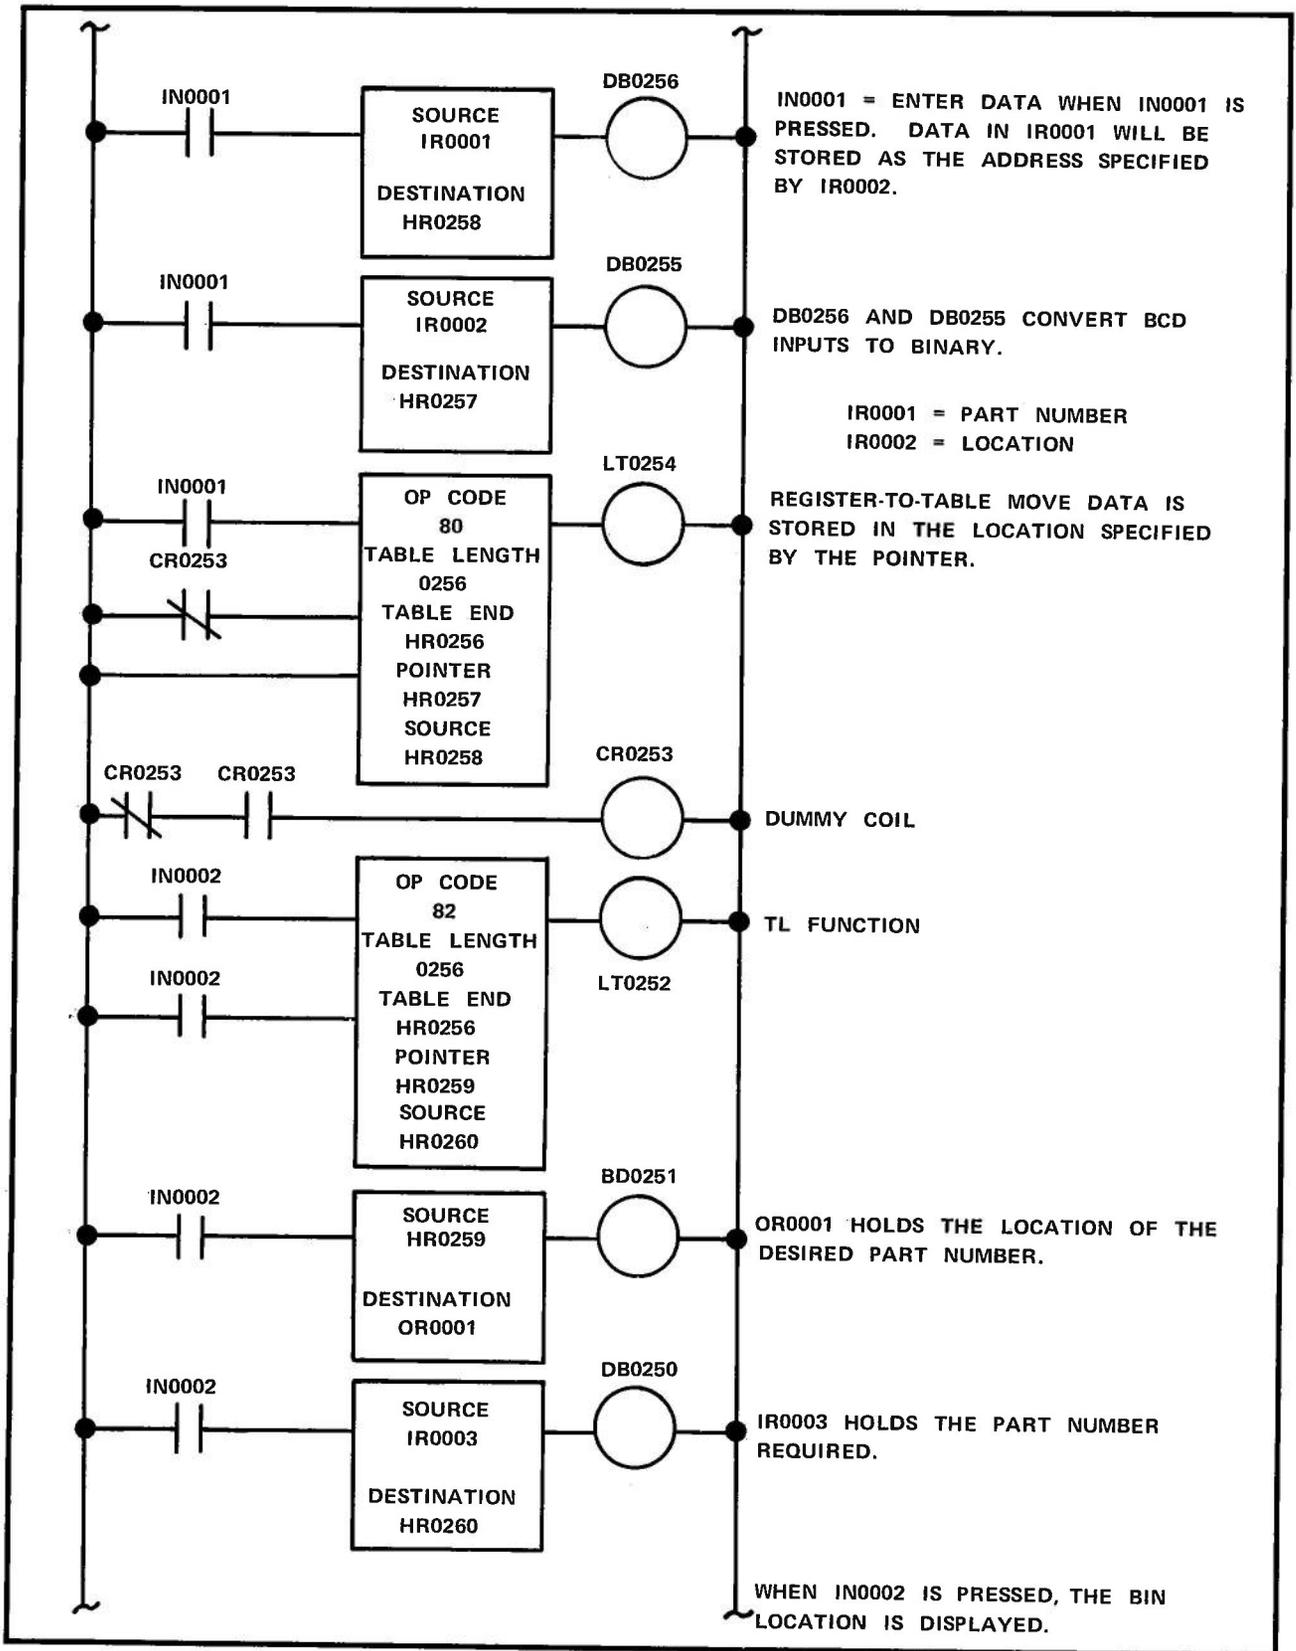

Figure 3. TL Application
The TL function can find a number that exactly matches the number held in the source register and report its location using the pointer. Figure 3 shows a storage system that uses a Register-to-Table Move (RT) function to record the storage of data and a TL function to retrieve the location. See Figure 3.